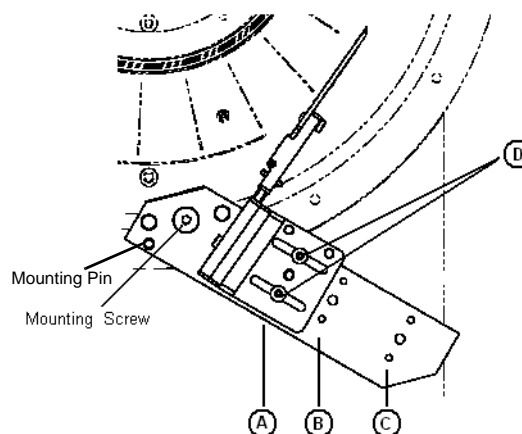

Figure 4.26 - Beam stop (front view)
3. Fasten the beam stop assembly to the goniometer (see Figure 4.26).
4. Mount the beam stop in one of the following positions using the "D" screws in Figure 4.26.